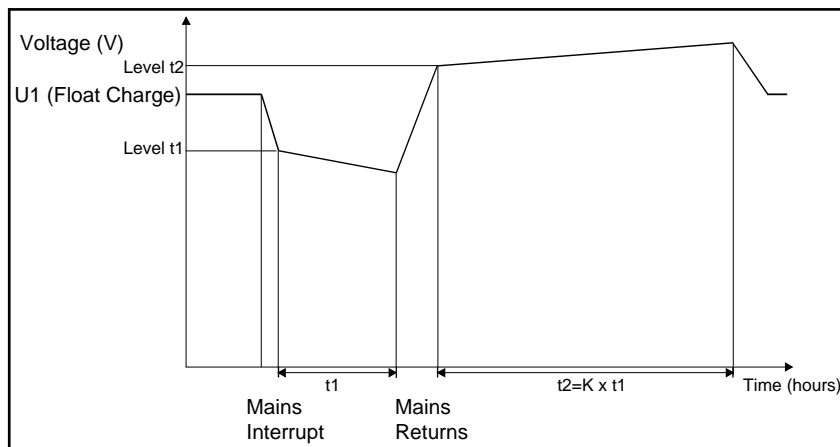

Figure 11 - Boost charging
3. Automatic boost charging - when the battery voltage drops below LEVEL t1 during a mains failure, timer t1 is started. When the mains is restored, timer t1 is stopped and the system starts automatic boost charging for time $t2 = k \times t1$ (k is an adjustable constant). Timer t2 starts counting when the battery voltage reaches LEVEL t2, see Figure 11.